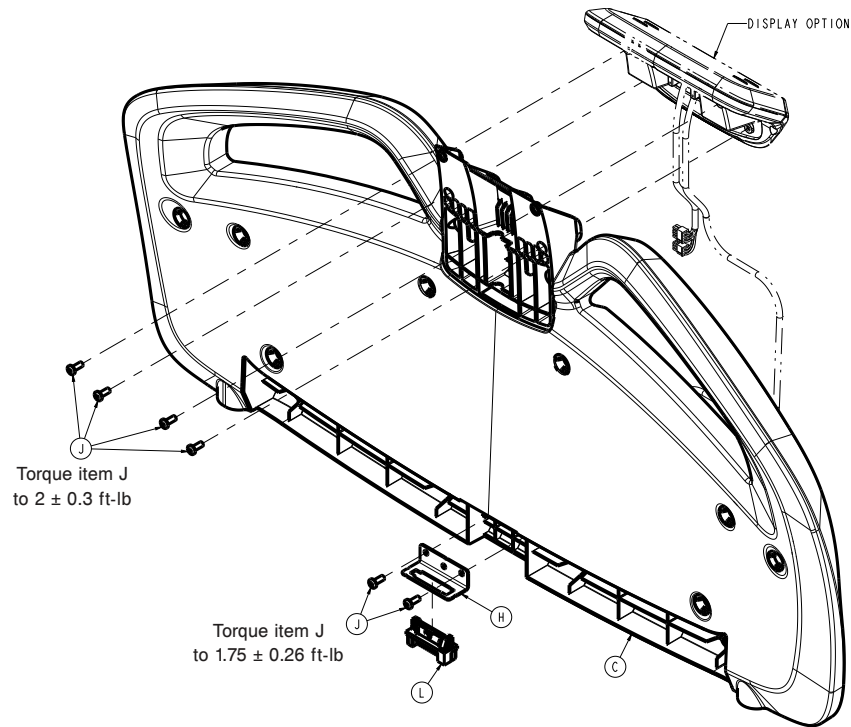

Figure 34 – Footboard housing
7. Using a T25 Torx driver, remove the four screws (J) that secure the display housing to the footboard (Figure 34). Let the display housing hang. Save the screws.